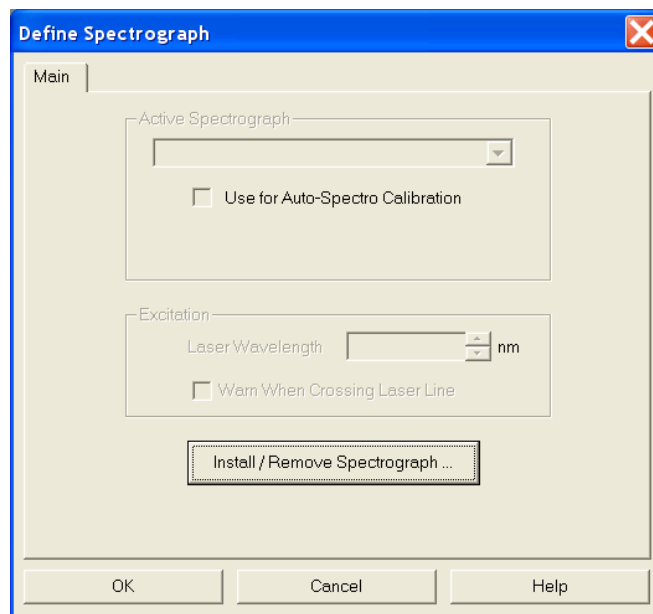

Figure 21. Define Spectrograph dialog
4. Select **Define** on the **Spectrograph** menu (Figure 20). This will open the **Define Spectrograph** dialog (Figure 21).